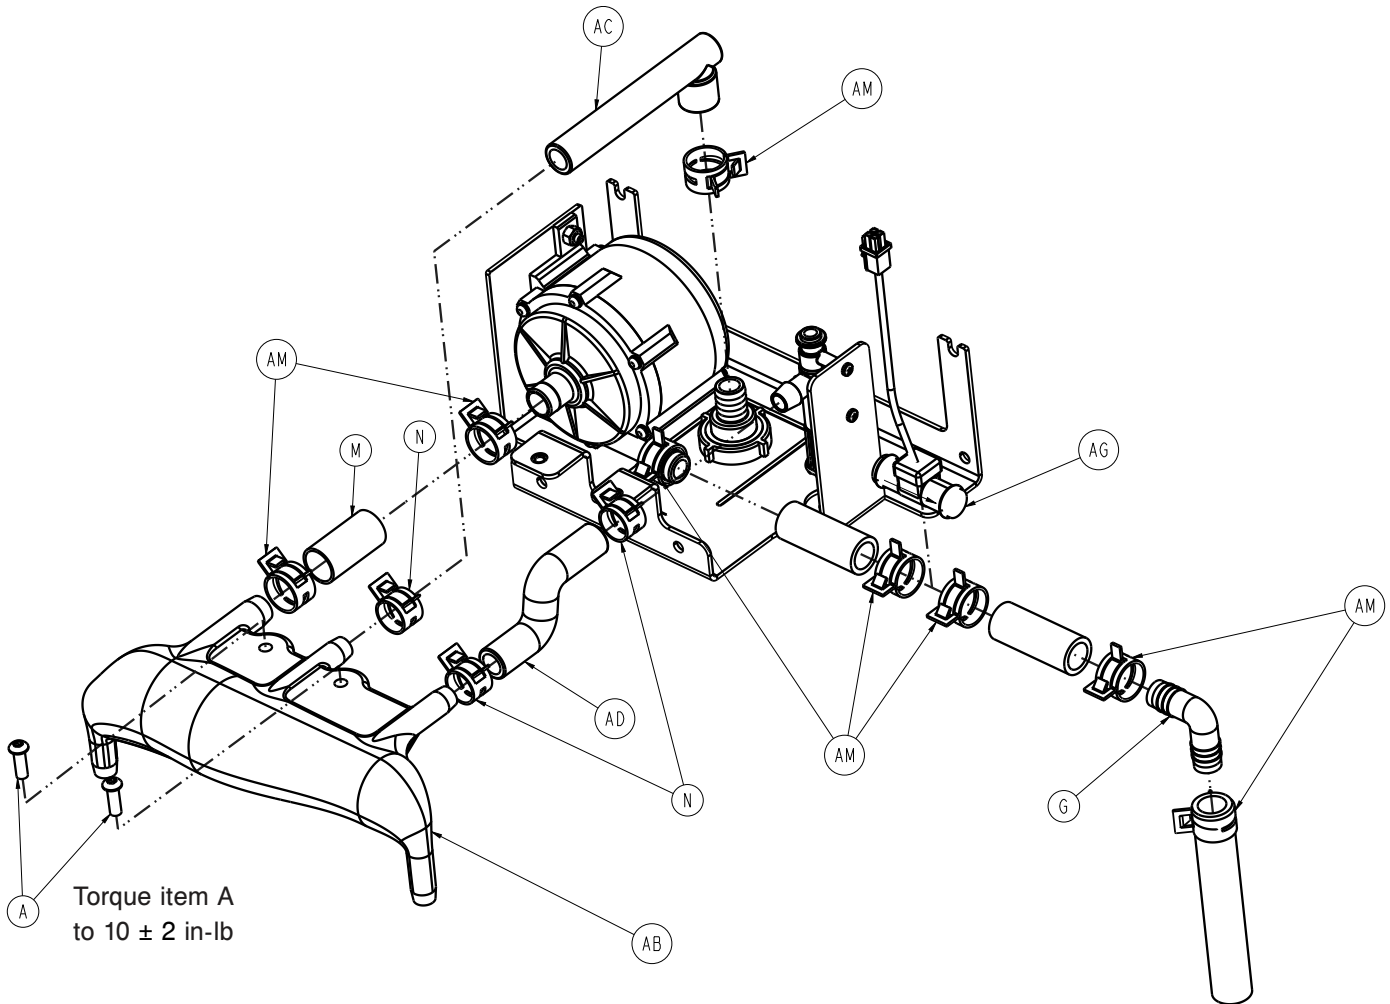

Figure 39 – Hose clamps
11. Using needle nose pliers, pinch the hose clamps (AM) and remove the tubing from the system flow sensor (Figure 39).